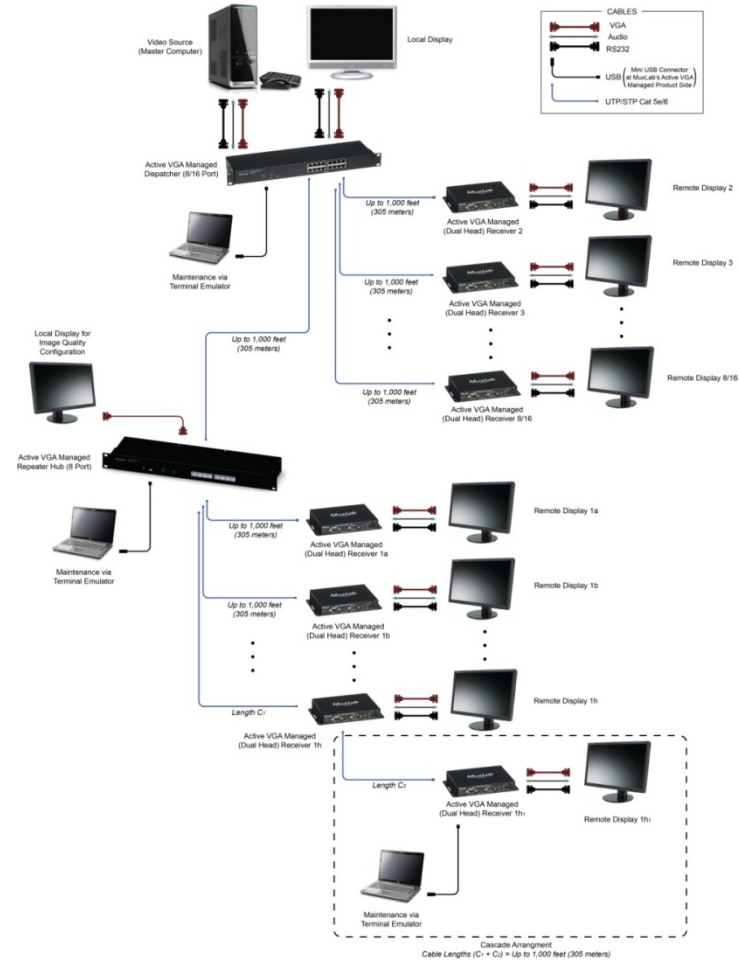

Figure 5: Typical Repeater Hub Configuration
8. Figure 5 shows a typical configuration: